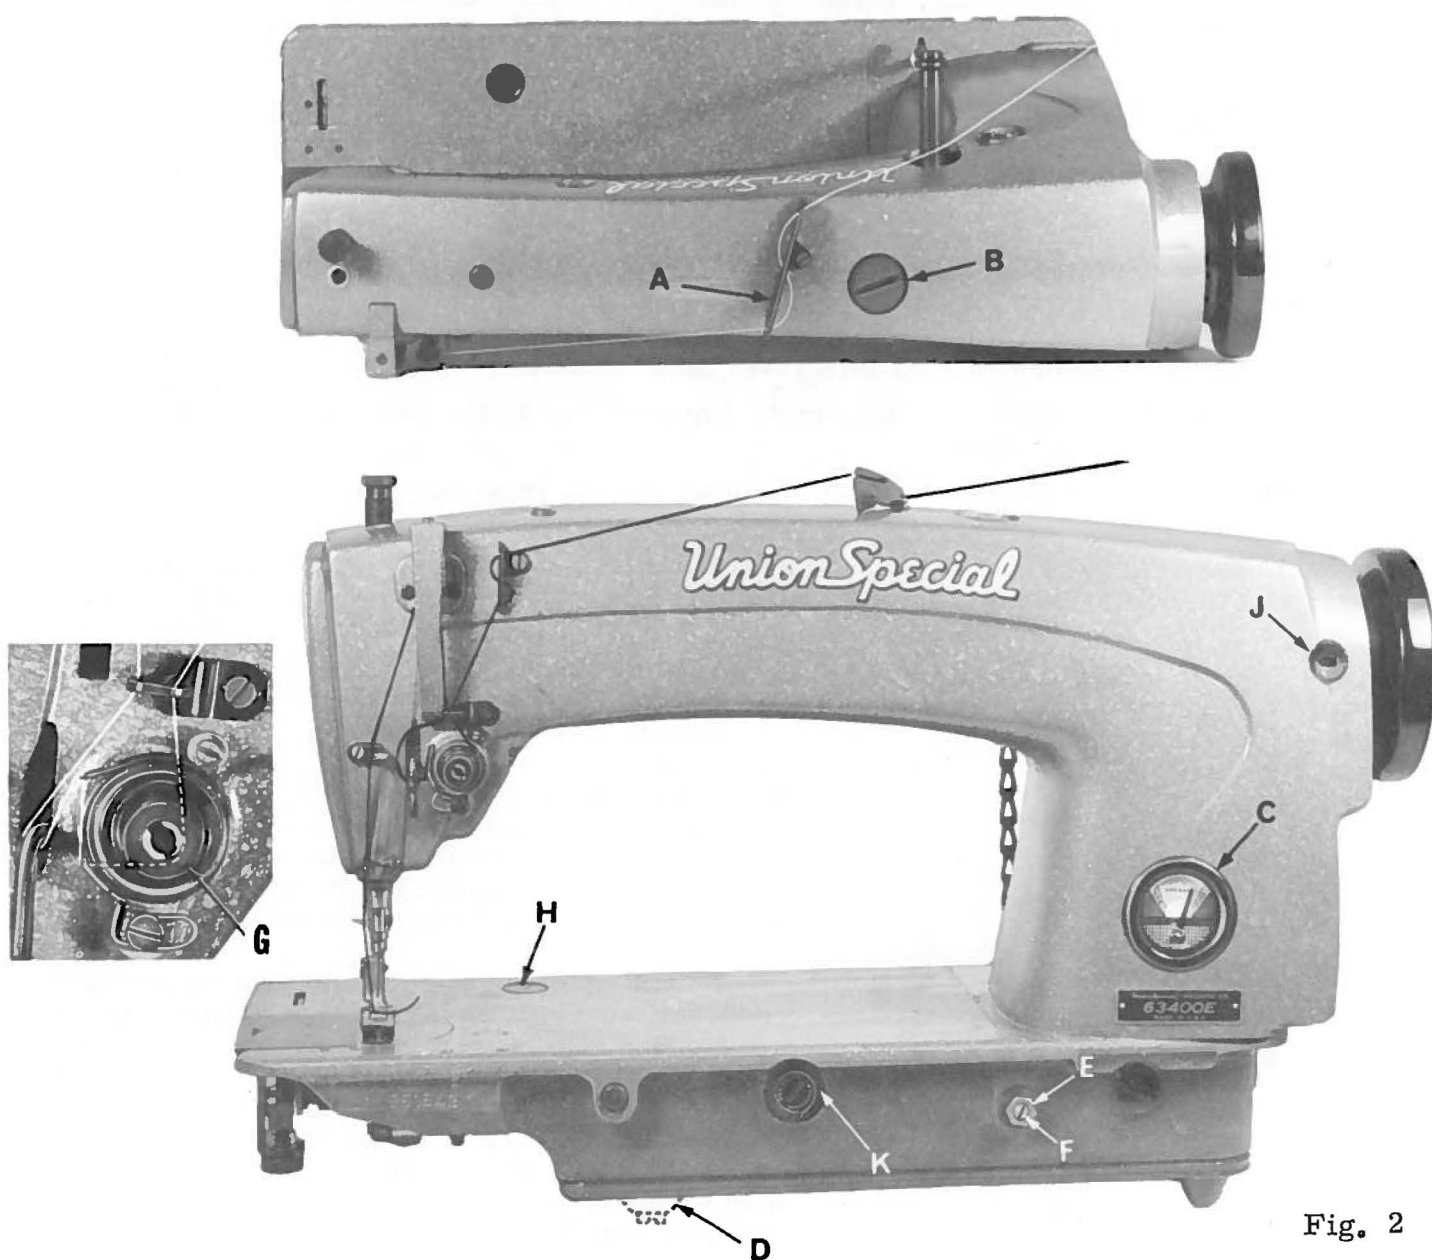

Fig. 2
Insert hinge studs in holes provided for them in rear of cloth plate. Assemble the upper frame eyelet (A, Fig. 2).
Use a stainless water-white straight mineral oil of a Saybolt viscosity of 90 to 125 seconds at 100° Fahrenheit in the main reservoir. This equivalent to Union Special specification No. 175. Fill main reservoir at plug screw (B, Fig. 2) and check oil level at gauge (C); oil is at a maximum level when needle is in yellow band marked "full". Oil should be added when needle is in yellow band marked "low".
Oil may be drained from main reservoir by removing plug screw (D, Fig. 2).
4. Loosen the lock nut (E, Fig. 2) on the calibrating screw (F), and turn the screw left or right so that the gauge needle rests on the yellow band marked "FULL" on gauge (C, Fig. 2).
Threading diagram (Fig. 2) shows the places where the needle thread passes. Please note that the needle thread passes through the needle eye from left to right.
The needle thread tension is varied by turning the tension regulating nut (G, Fig. 2). Turning the nut in a clockwise direction increases the tension, while counterclockwise decreases it. This should not be done when the presser foot is in its raised position, but is generally done while the machine is sewing on a piece of scrap material.
Press plunger (H, Fig. 2) in firmly. While holding plunger in, turn handwheel in operating direction until stitch regulating finger is felt to drop into the slot of feed eccentric. Continuing to hold the plunger in, turn handwheel in operating direction to increase the stitch length and in opposite direction to decrease the stitch length.
Stitch lengths are indicated by graduations on the indicator dial and are viewed through the window in the belt guard (J, Fig. 2).